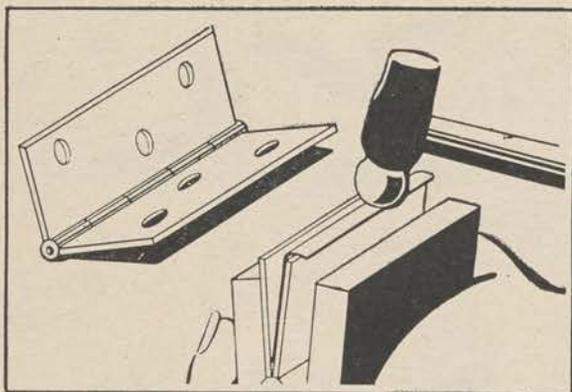

Figure 7.
a. A useful vise for bending metal can be made from an ordinary door hinge (fig. 7).